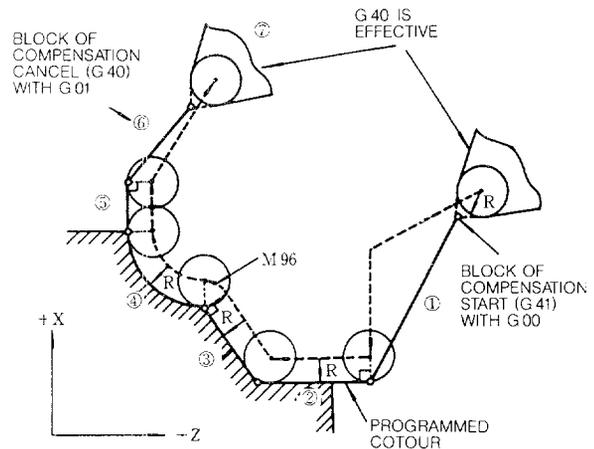

Fig. 2.31
(4) Tool motion on the tool nose radius compensation
a. Fig. 2.31 shows the outline of the tool motion.